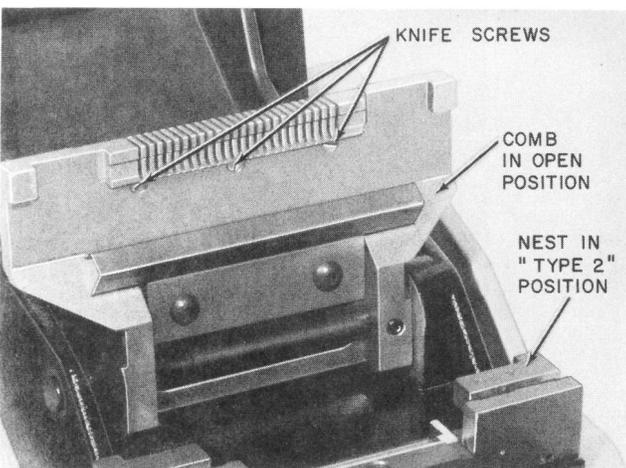

Fig. 12—Connector Nest in Type 2 Position
4.03 Knife—The knife is reversible; both edges can be used before it is replaced. To take out the knife, first remove the comb. Then open the comb lock and turn the comb hinge back to get access to the 3 screws which secure the knife (Fig. 12). Remove the screws with a small screwdriver.